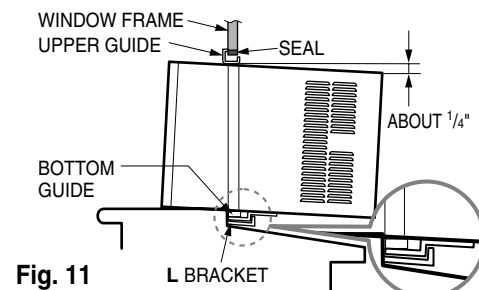

Fig. 11
- b. While steadying the air conditioner, carefully bring the window sash down behind the upper guide of the air conditioner, as shown in Fig. 11.